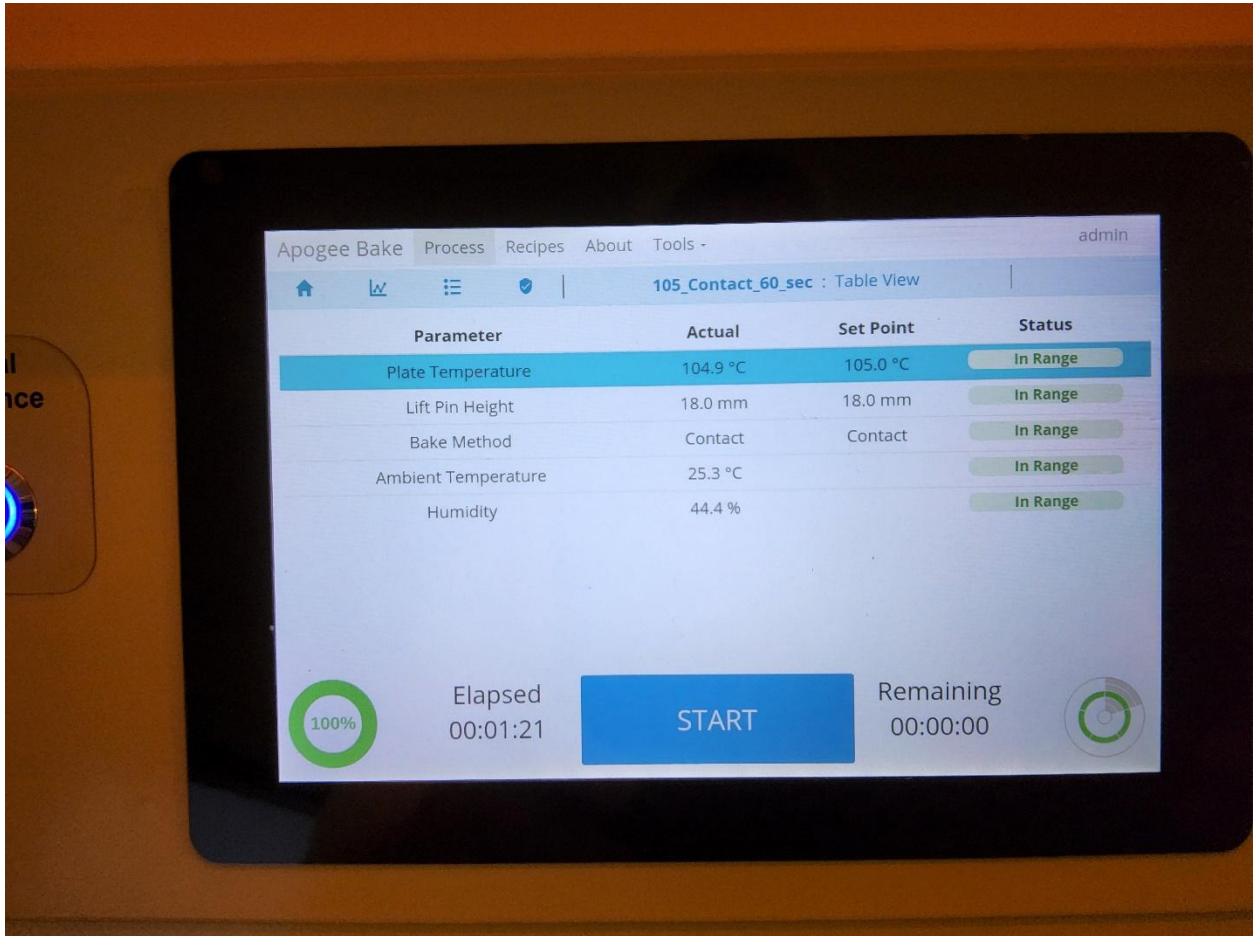

Figure 3.
1. The Home screen of the Bake Module is shown in Figure 3. The operation of the software is similar to the spin module.